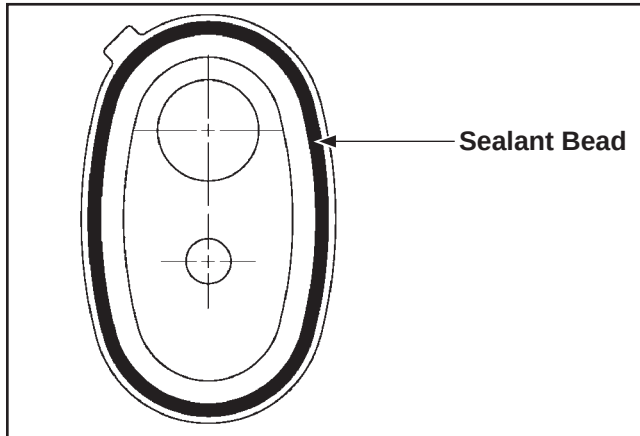

Figure 10-29. Sealant Applied to Breather Cover.
2. Invert the breather housing (cover) and apply a 1.5 mm (1/16 in.) bead of RTV sealant to the perimeter flange of the outer housing (cover) as shown in Figure 10-29. Use Loctite® 5900 or 5910, Kohler Part No. **25 597 07-S**.